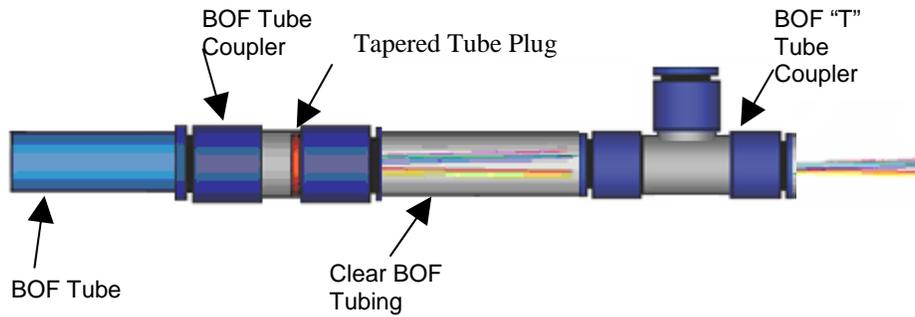

Figure 7
Step 8 – Insert the individual fibers into the tee tube coupler, slide to the short piece of clear BOF tube and seat firmly (Figure 7). Apply a light load of approximately 22 N (5 lbs) between the coupler and the tube to ensure the coupler is fully engaged onto the tube.